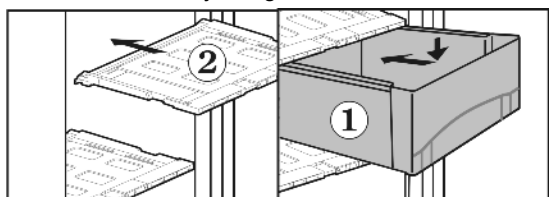

Fig. 12
- ▶ To insert drawer cover Fig. 12 (2): Insert mouldings of the drawer cover into the rear holders from underneath and snap into the holder at the front.
- ▶ Place drawers Fig. 12 (1) on the rails and slide them all the way in until the drawer audibly snaps into place.